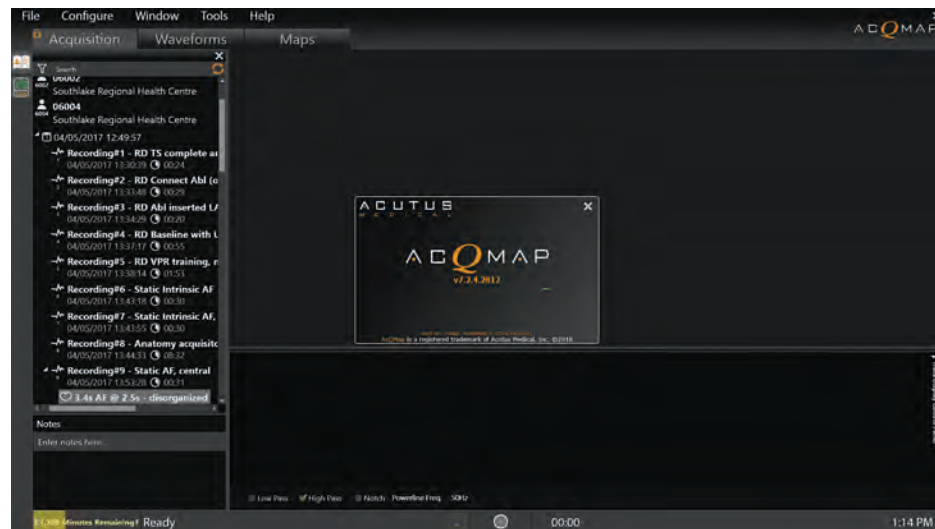

Figure 8-1. AcQMap Console start-up screen.
1. Wait for the AcQMap Console start-up as indicated by the presence of the AcQMap logo screen. (Figure 8-1).